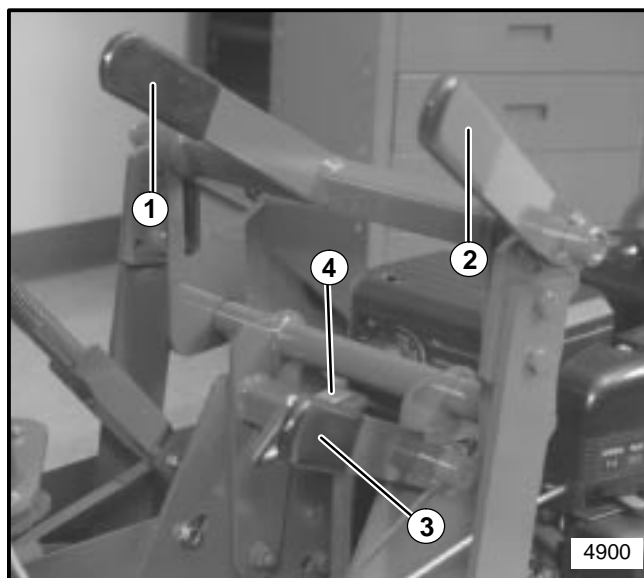

FIGURE 3
Blade Depth Control Lever	Raises or lowers cutting blade. See Figure 3, item 1.
Blade Angle Locking Lever	Adjusts cutting angle of blade. See Figure 3, item 3.
Blade Depth Control Locking Lever	Locking lever holds blade depth control lever in desired position. See Figure 3, item 2.